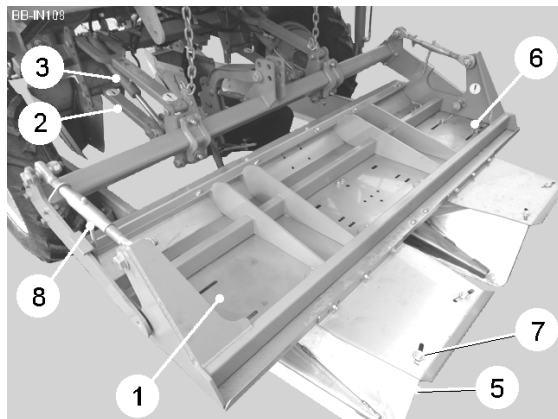
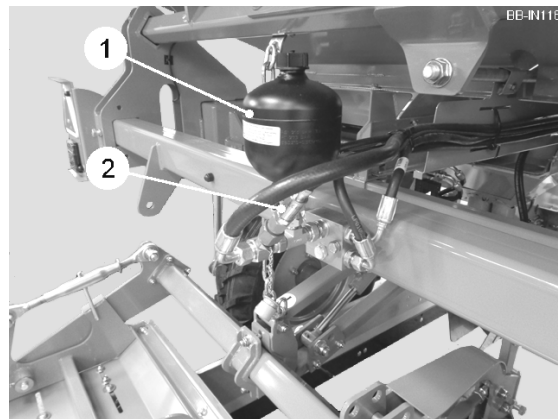

Fig. 13
Fig. 14
The adjustable moulding board (item 1, fig. 13) is mounted to the rear of the planter via the parallel linkage arms (item 2, fig. 13). The pressure exerted by the board is controlled from the touch-screen terminal. In manual mode, the board will rest on the bed under its own weight (float) and the parallel linkage rams (item 3, fig. 13) will open and close freely as the moulding board rises and falls. In automatic mode, additional hydraulic pressure is added to the moulding board by the accumulator (item 1, fig. 14) and pressure transducer circuit (item 2, fig. 14). For hydraulic pressure adjustment see 'Moulding Board Pressure' in the TOUCH-SCREEN OPERATION section of this handbook.
The position of the wings (item 5, fig. 13) is important to ensure a nicely formed bed. The outer wings are adjustable for both position and angle. The position of the wing determines the width of the finished bed. To adjust, loosen the mounting bolts (item 6, fig. 13) and slide the outer wing assembly to the required position.
The angle at which the wings operate will determine the shape of the bed. To adjust, loosen the retaining bolt (item 7, fig. 13) and rotate the wings to the required position. The top links (item 8, fig. 13) set the moulding board angle. Initially, the angle should be set at approximately 5° from horizontal. Increasing the angle will allow more soil under the board.